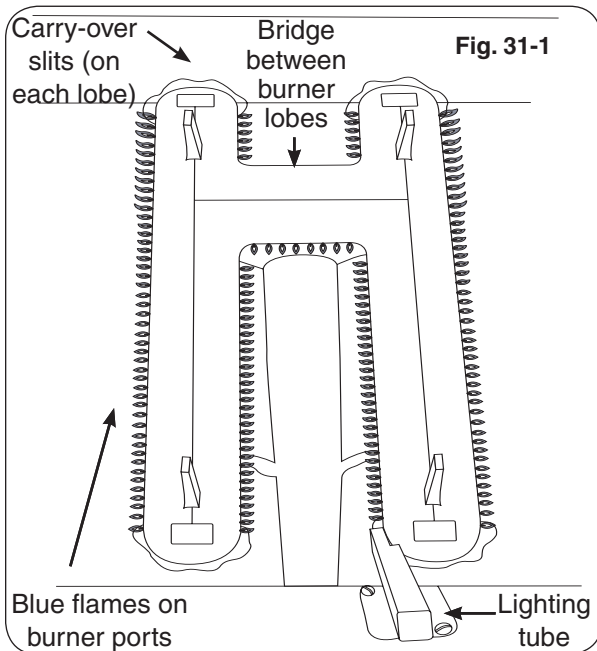

Fig. 31-1
Flames from a properly adjusted main burner with no wind or breeze present will appear fairly steady, consistent, and almost entirely blue. The extreme tips of the flames may be light yellow. If the tip of a flame were to turn orange, it should only do so briefly and then become blue or light yellow again. The flames will appear to burn while touching the burner ports (see Figure 31-1).
5. Repeat steps 1-4 until the flames appear to touch the burner ports, burning fairly steadily and almost entirely blue with occasional light-yellow tips (see Fig. 31-1).